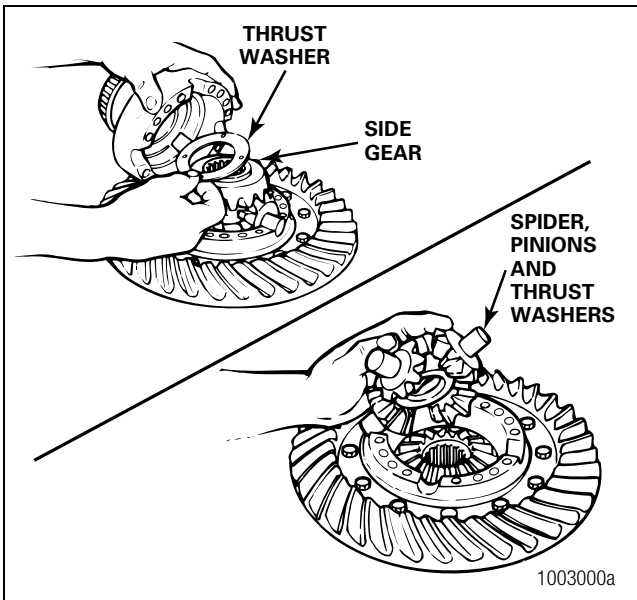

Figure 3.17
4. Remove the differential spider, four pinion gears, two side gears and six thrust washers from the inside of the case halves. Figure 3.17.